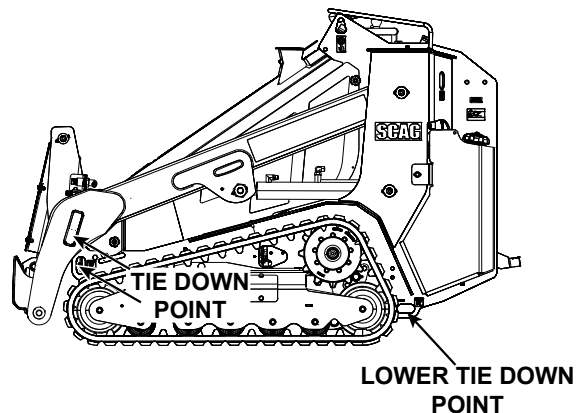

Figure 2-2. Tie Down Points
21. Tie the track loader down securely using straps, chains, or cable. Both front and rear straps must be directed down and outward from machine. Comply with all local ordinances for the trailer and tie-down requirements See Figure 2-2 and 2-3.